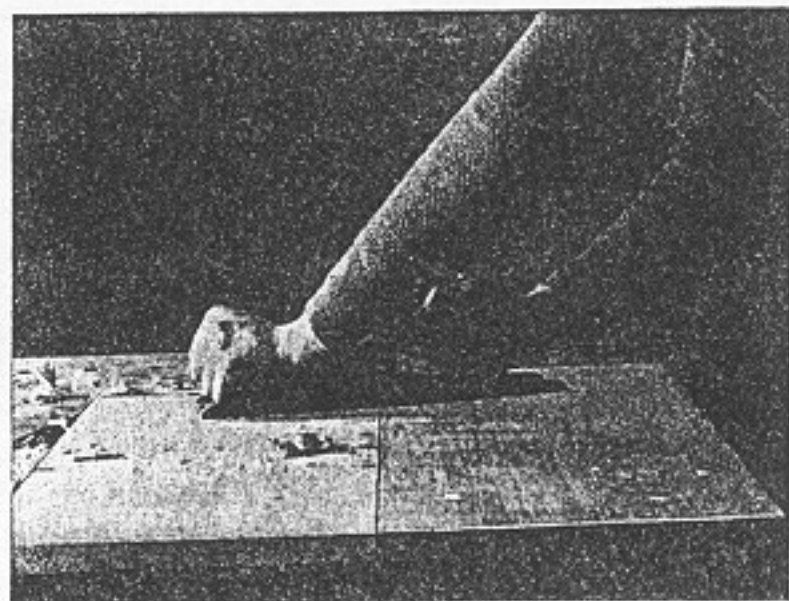

Fig. 121. Planing across the grain.
5. Planing is started at one end of the board and continued to the other (Fig. 121). The surface is tested for flatness with the framing square as the planing progresses.